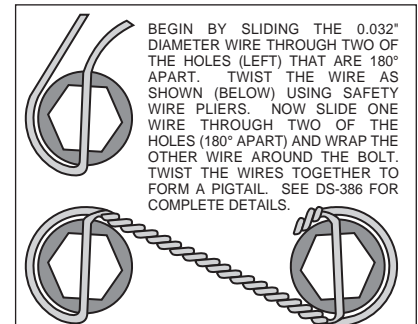

Figure 4. Safety Wire Diagram
•Install bolts (2) through caliper mounting bracket (1) into steering arm, finger tighten only. After you are positive of the bracket (1) alignment, remove the mounting bolts (2) one at a time and Apply red *Loctite*® 271 to bolt threads, then reinstall. Torque bolts (2) to 30 ft-lb. **NOTE:** Be sure the heads of the bracket (1) insert nuts are facing outward toward the wheel.
•Install wheel studs (3) into the hub (4). Torque to 77 ft-lb. **NOTE:** There are two (2) five lug patterns in the hub (5 x 4.50 and 5 x 4.75). Make sure of the correct hole pattern for the correct wheel application before installing studs into hub.
•Pack the large inner bearing cone (5) with high temperature disc brake bearing grease (available from your local auto parts store) and install into the backside of the hub (4). Install the grease seal (6) by pressing into the backside of the hub (4).
•Attach rotor adapter plate (7) to rotor (8) using bolts (9). Using an alternating sequence, apply red *Loctite*® 271 to the threads and torque bolts (9) to 25 ft-lb. For an added measure of security, the bolts may be safety wired using standard 0.032 inch diameter stainless steel safety wire as shown in Figure 4. Please refer to Wilwood's data sheet DS-386 (available at www.wilwood.com/Pdf/DataSheets/ds386.pdf) for complete safety wire installation instructions. **NOTE:** Dished side of adapter plate (7) should face hub (4). The machined tab side of the iron rotor (8) should face the adapter plate (7).